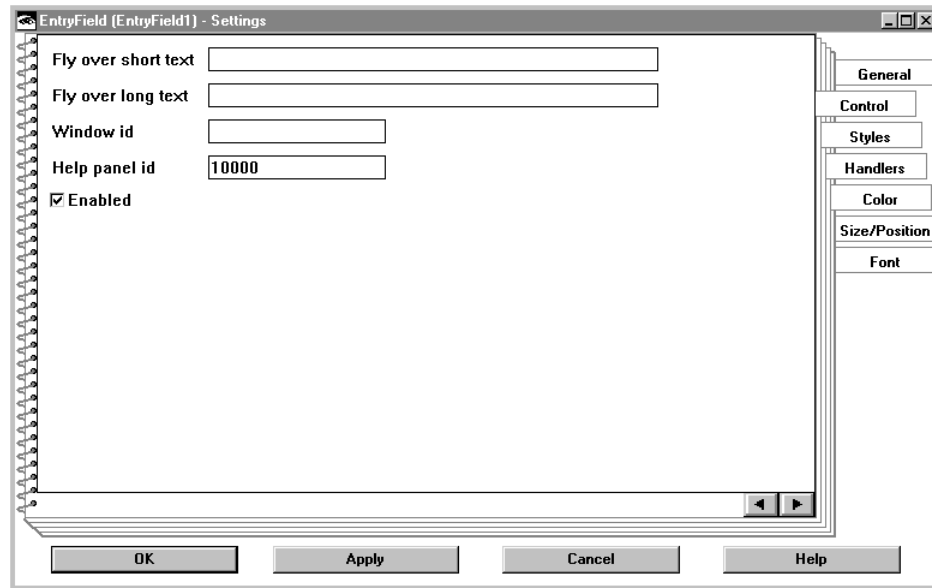

Figure 114. The Control Page of the Skill Description Entry Field's Settings Notebook
2. Select the **Control** page. It looks like Figure 114 on page 253.